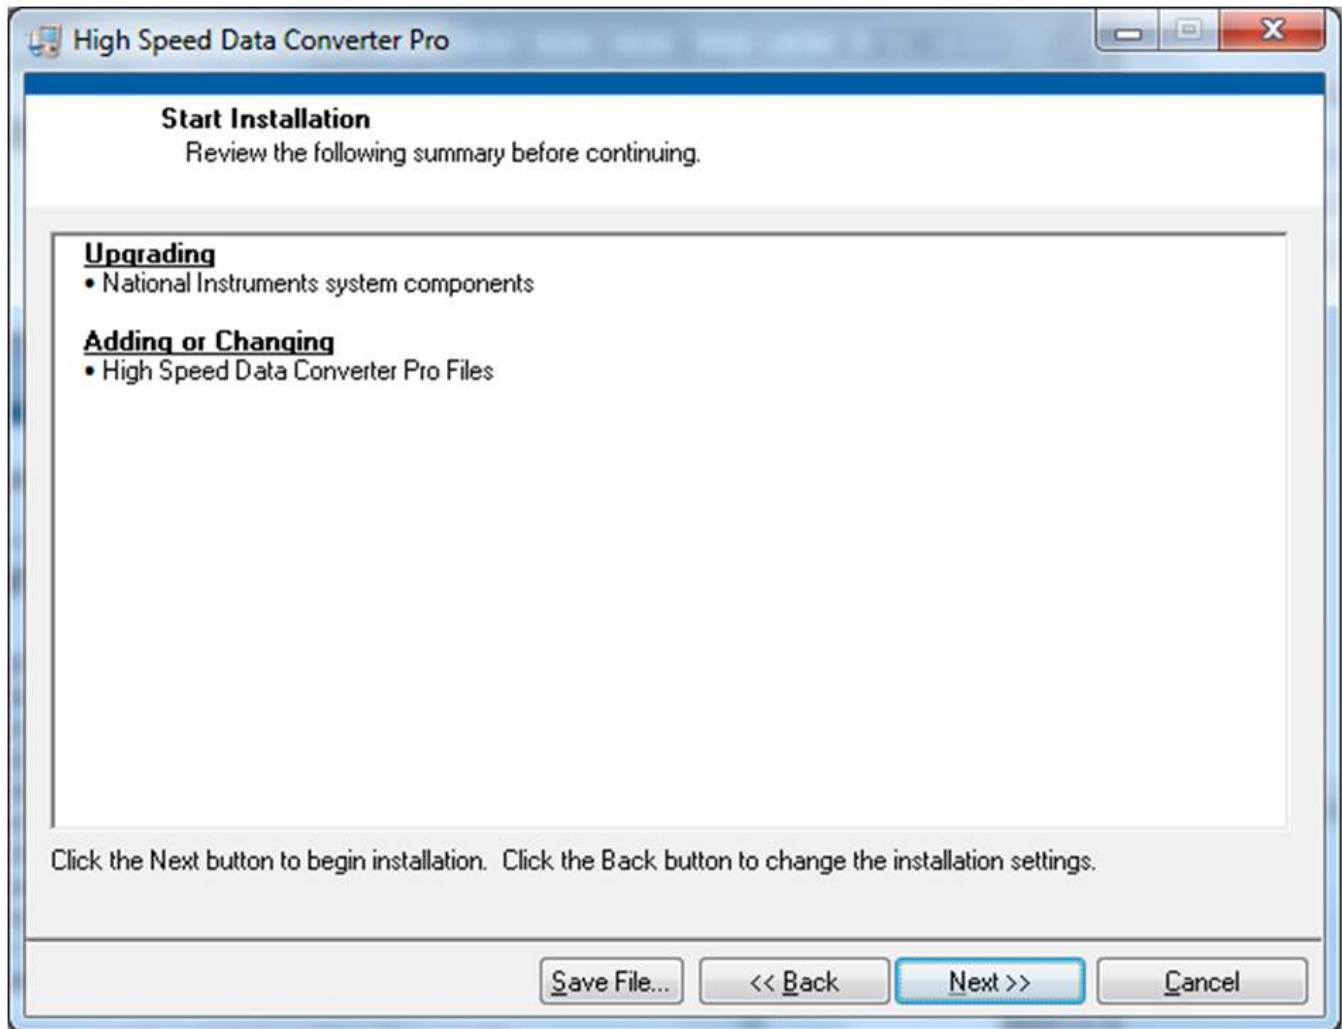

Figure 25. HSDCPro Install (Start Installation)
- Press the *Next* button as shown in Figure 25.